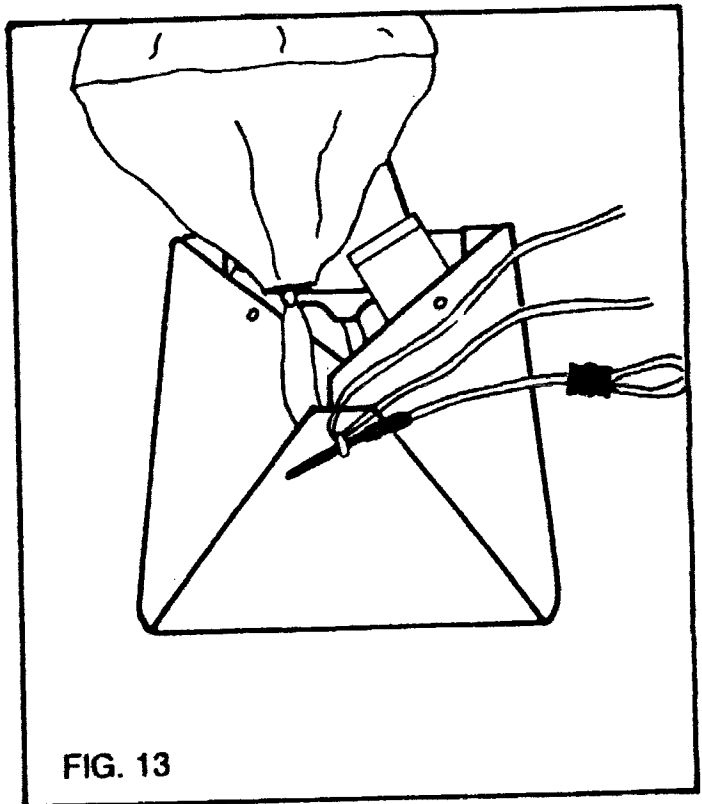

FIG. 13
8) Close the bottom flap, leaving approximately 6" of bridle between the flap and the bottom of the pilot chute as shown in FIG. 13.
12) Keeping the bridle to the right, close the top flap as shown in FIG. 13.